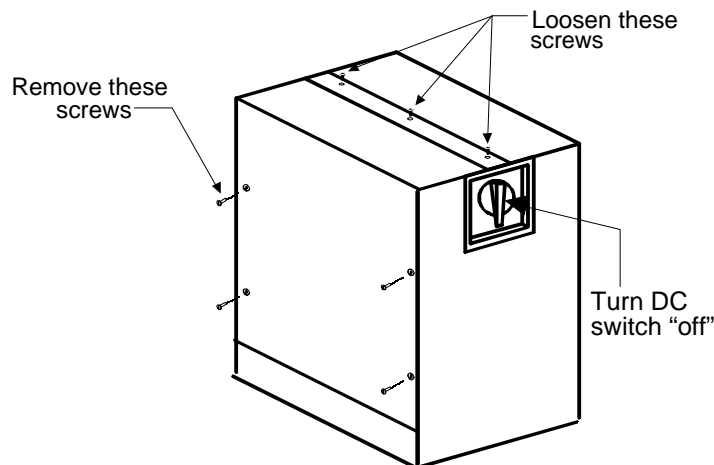
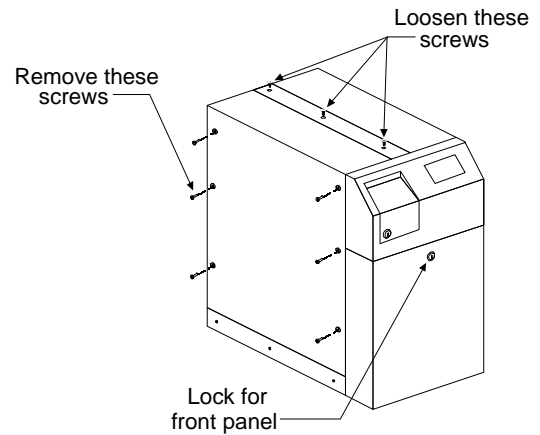

Figure 1
Figure 5
103. Turn the DC disconnect switch on the front of the battery cabinet off. (See Figure 1.)
104. Remove the Phillips screws from the side of the battery cabinet. (See Figure 1.)
105. Loosen, but do not remove, the three (3) screws along the top of the battery cabinet. (See Figure 1.)
503. Use the FERRUPS key to unlock the lock in the middle of the front panel. (See Figure 5.) Remove the panel.
504. Loosen the three (3) Philips screws on the bar across the top of the UPS. (See Figure 5.)
505. Remove the screws on each side of the UPS. (See Figure 5.)
601. Put the side covers back in place and reattach the screws on each side of the battery cabinet (see Figure 1 on page 3) and each side of the UPS (see Figure 5).
602. Tighten the screws on the bar across the top of the battery cabinet (see Figure 1 on page 3) and across the top of the UPS (see Figure 5).